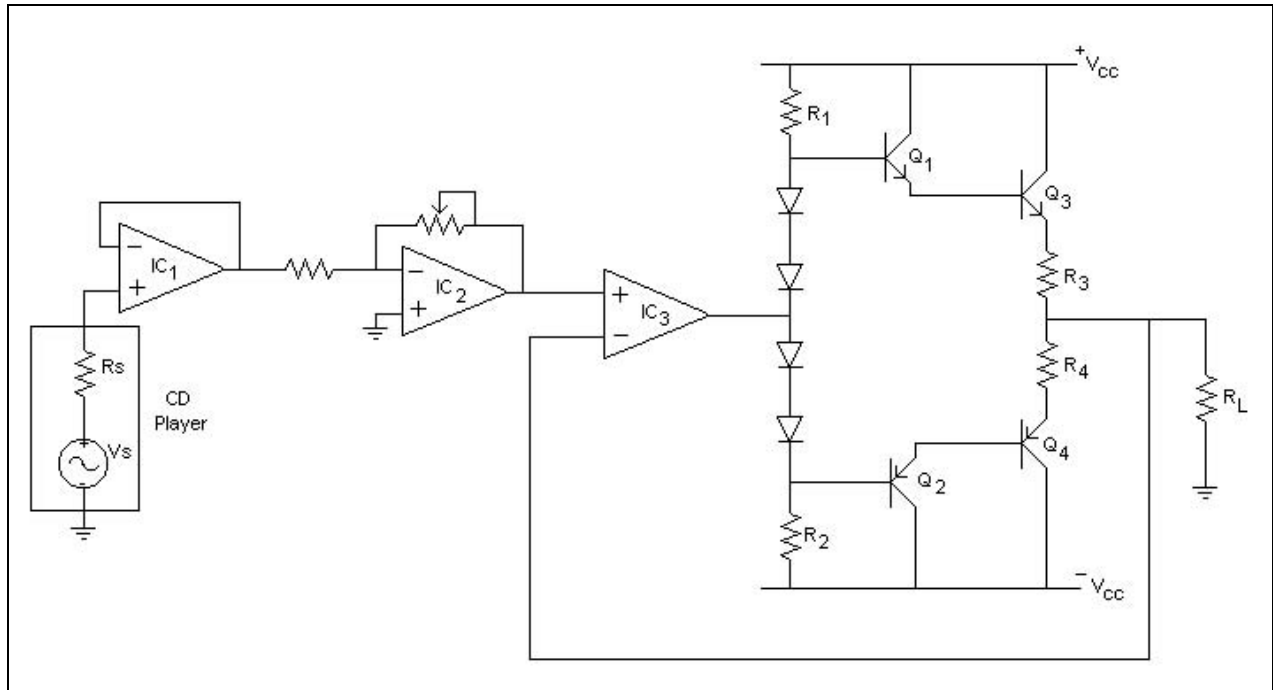

Figure 3.3: Example Design of Audio Amplifier
An example design of the circuit is given in Fig.3.3.
3. Describe qualitatively the operation of the circuit in Fig. 3.3. What is the purpose of R_1 , R_2 and the diodes? What is the purpose of the Darlington connections?
4. If the feedback and input resistors of IC2 are 10K and 1K respectively, what is the voltage gain of the circuit in Fig. 3.3?